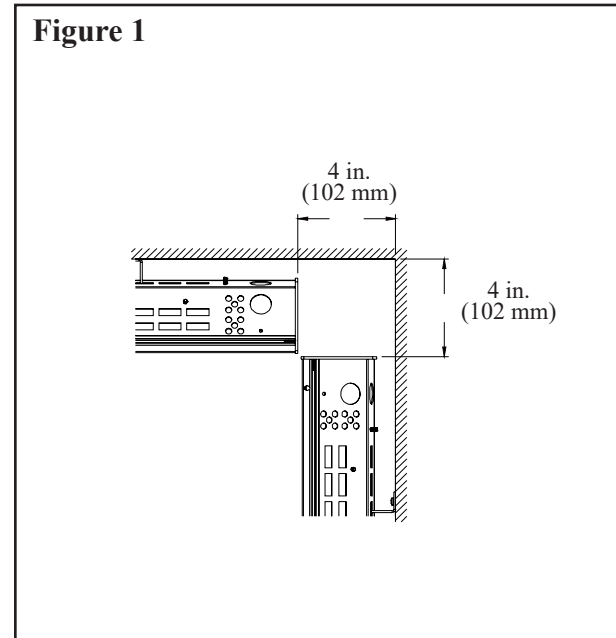

Figure 1
- 21- A badly installed heater can be permanently damaged and present a risk of fire or electric shock. Respect the required minimal clearances. See **Fig. 1 and 4**.
Heater must be located so that the ends of each heater are 4 in. (102 mm) from side wall. See Fig. 1.